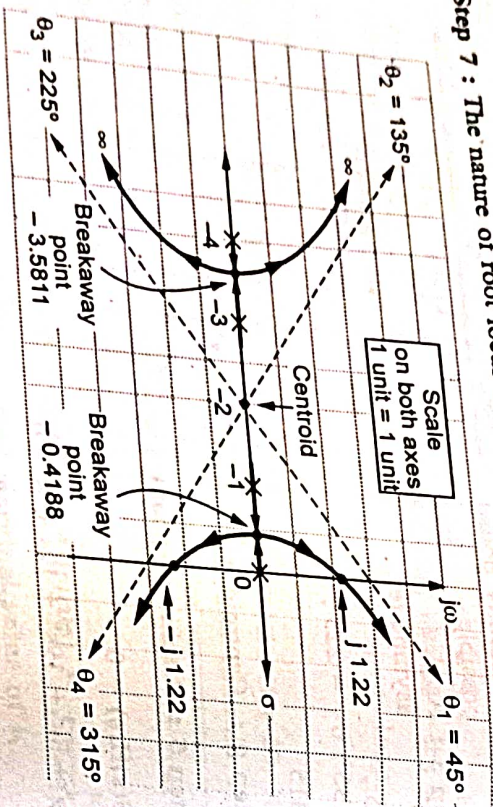

Fig. Q.23.1
Step 7 : The nature of root locus is shown in the Fig. Q.23.1.